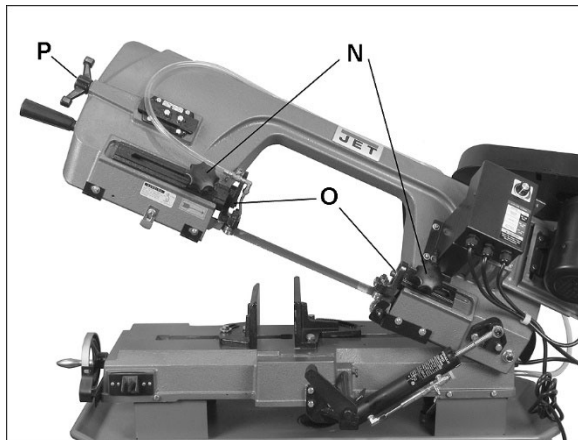

Figure 8-7: blade guide adjustment
2. Loosen knob (N, Figure 8-7) and slide blade guide assembly (O) as close as possible without interference to material being cut. Tighten knob.
5. Release tension on blade by turning tension handle (P, Figure 8-7) counterclockwise. Remove blade. (Use gloves when handling sharp blades).
3. If blade is properly adjacent to wheel flange, slide blade guide assemblies as far apart as possible, and tighten in position with knobs (N, Figure 8-7).
4. Push on blade to test tension. Finger pressure should cause approximately 0.004" deflection. Turn blade tension handle (P, Figure 8-7) until proper tension is achieved. For more precise measurement use blade tension gauge (not provided).